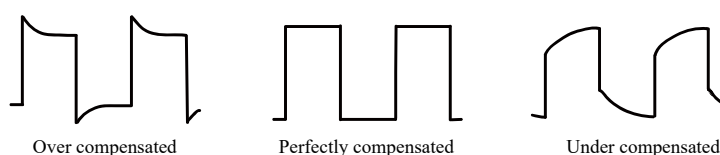

Figure 4.9 Probe Compensation
2. Check the displayed waveforms and compare them with the waveforms shown in *Figure 4.9*.